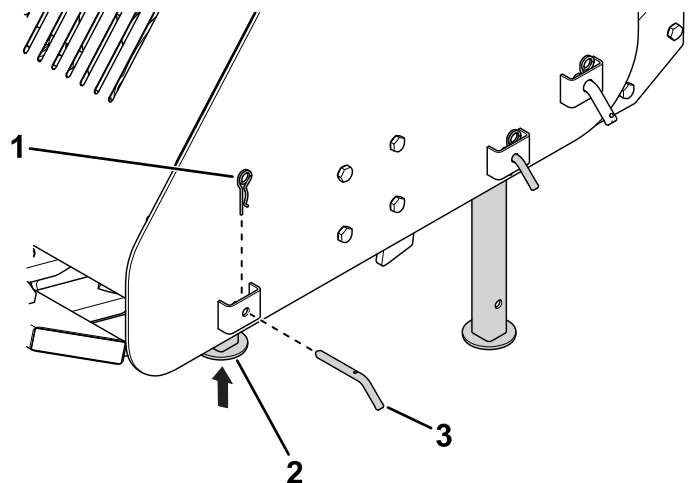

Figure 10
6. Shut off the traction unit, remove the key, and raise the attachment storage stands (Figure 10).